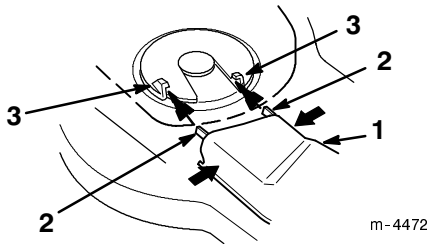

Figure 22
- Replace the belt cover by squeezing the sides together and inserting the tabs on the belt cover into the brackets on the engine base (Fig. 22).